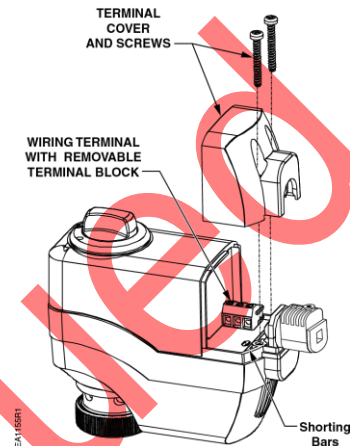

Figure 2. Manually Clearing Calibration Stroke from Memory.
3. With power applied to the unit, insert and gently twist a flat-blade screwdriver to electrically connect the shorting bars (Figure 2). The SSC61.5U then performs a new calibration stroke.